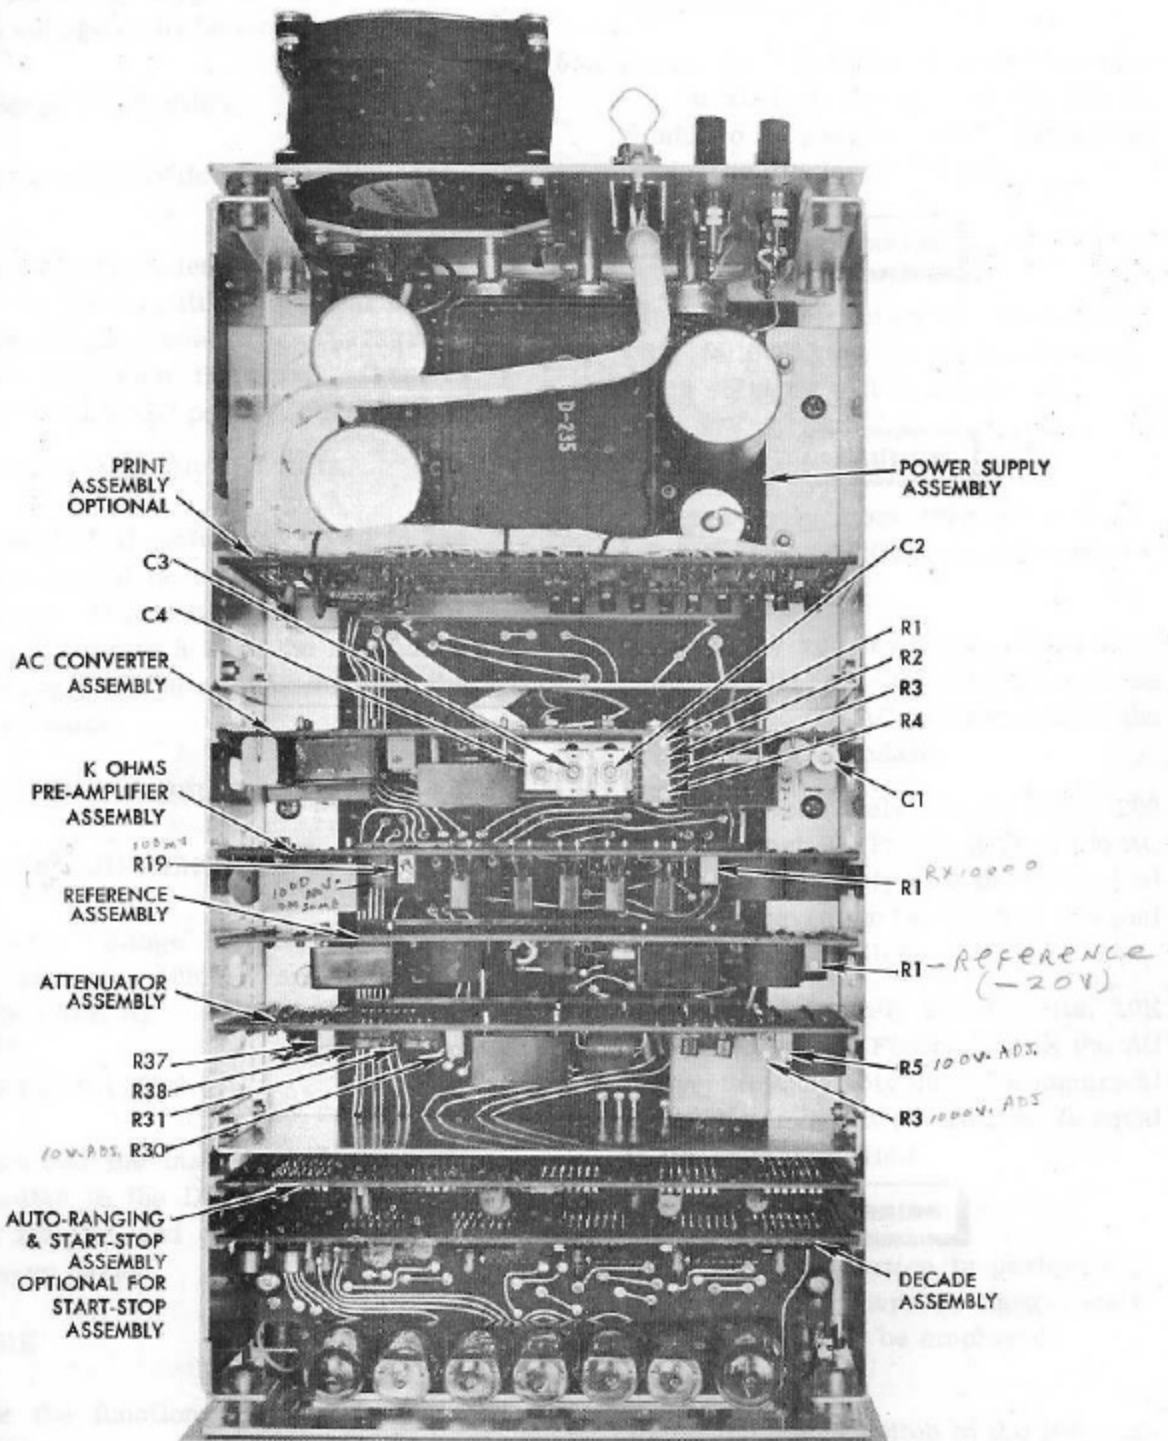

Figure 3-2. Location of Major Subassemblies and Adjustment Points
1. Remove the reference assembly, P/N 37-36, from instrument (Figure 3-2).
3. The numerical value displayed in the readout should be equal to the voltage of the voltage standard. If it is not, adjust potentiometer R30 (Figure 3-2) of the Attenuator Assembly, P/N37-39, until the readout displays the correct value. Note that input impedance of DVM is 10 Megohms.
Potentiometers R31 and R38 (Figure 3-2) have been adjusted and sealed at the factory and must not be adjusted in the field. They are temperature coefficient compensators for the  $\pm$  prime calibration.
4. The numerical value displayed in the readout should be equal to the voltage standard. If it is not, adjust potentiometer R3 (Figure 3-2) of the Attenuator Assembly until the readout displays the correct value.
7. Apply approximately 450.00 volts, 200 Hz and adjust R1 (Figure 3-2) of the AC Converter Assembly until the numerical value displayed in the readout is equal to the voltage applied.
8. Apply approximately 450.00 volts, 10K Hz and adjust C1 (Figure 3-2) of the AC Converter Assembly until the numerical value displayed in the readout is equal to the voltage applied.
9. Place the range switch in the 100 position. Apply approximately 90.00 volts, 200 Hz and adjust R2 (Figure 3-2) of the AC Converter Assembly until the
10. Apply approximately 90.00 volts 10 K Hz and adjust C2 (Figure 3-2) of the AC Converter Assembly until the numerical value displayed in the readout is equal to the voltage applied.
11. Place the range switch in the 10 position. Apply approximately 9.000 volts, 200 Hz and adjust R3 (Figure 3-2) of the AC Converter Assembly until the numerical value displayed in the readout is equal to the voltage applied.
13. Apply approximately 0.9000 volts, 200 Hz and adjust R4 (Figure 3-2) of the AC Converter Assembly until the numerical value displayed in the readout is equal to the voltage applied.
14. Apply approximately 0.9000 volts, 10K Hz and adjust C4 (Figure 3-2) of the AC Converter Assembly until the numerical value displayed in the readout is equal to the voltage applied.
7. Apply approximately 9000  $K\Omega$  and adjust R1 (Figure 3-2) of the Ohms Converter and Pre-amplifier Assembly until the numerical value displayed in the readout is equal to the ohmic value applied.
Pre-amplifier Assembly (Figure 3-2) until the numerical value displayed in the readout is equal to the voltage of the voltage standard.